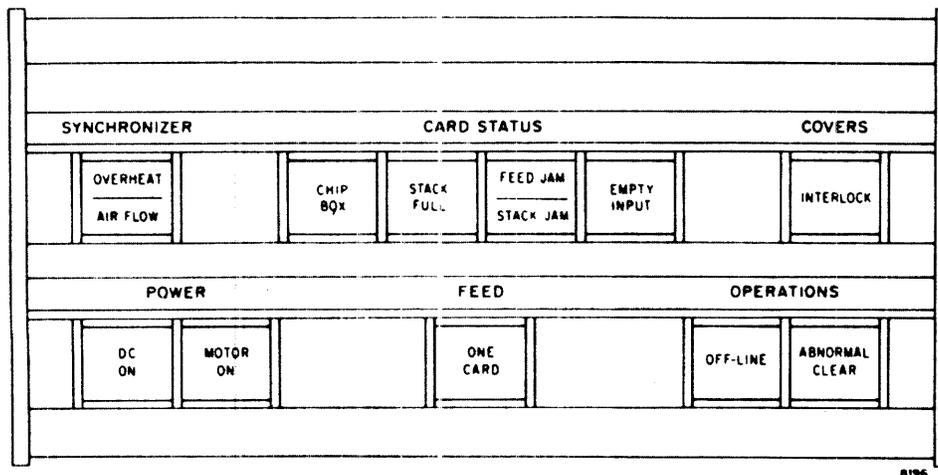

Figure 8-3. Card-Punch Control Panel
The control circuits (1) enable the system, through the synchronizer, to control card feeding, punching, and output-stacker selection, and (2) provide for limited control from the punch-unit control panel. Table 8-1 lists and describes the controls and indicators on the card-punch control panel. Figure 8-3 shows the control panel.